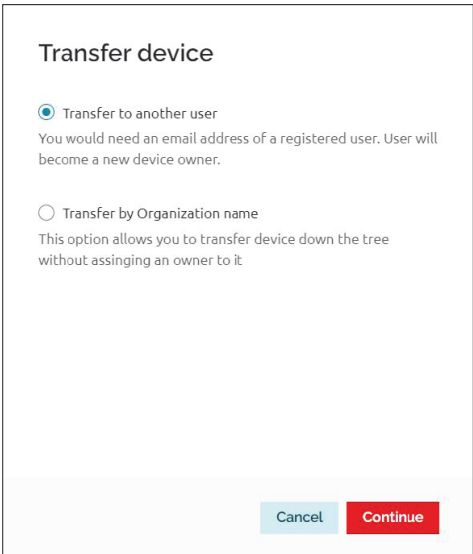

Figure 66. Transferring Device Ownership
5. Select one of the two options, see **Figure 66**. On the next window, if the first option is selected, type the new user's e-mail address, otherwise enter the new organizations name.